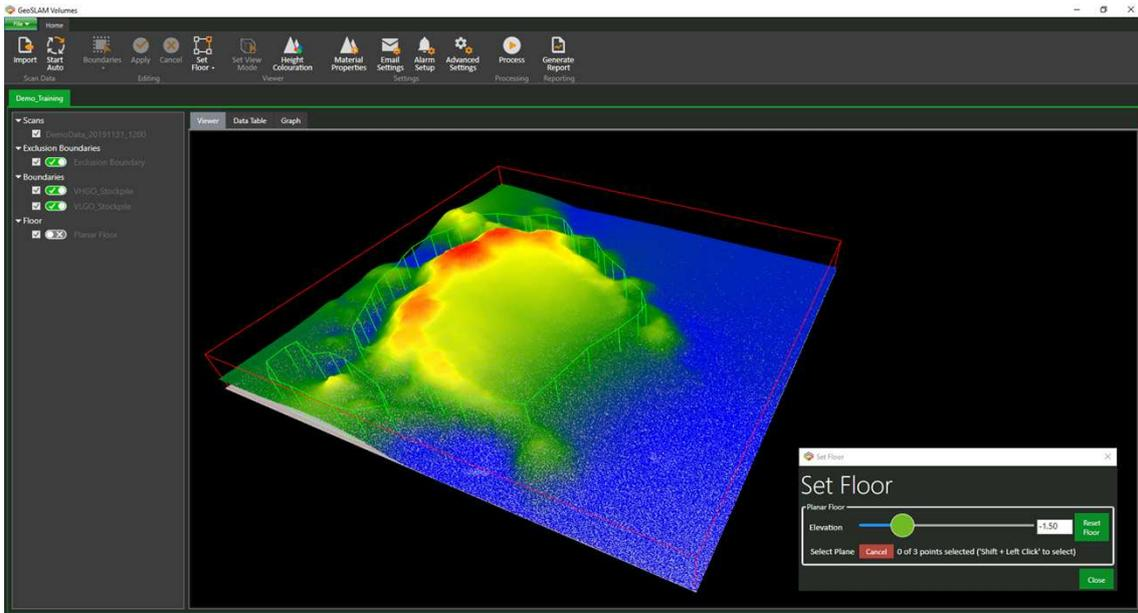

Figure 72. Creating an inclined plane by selecting 3 points from the dataset.
4. **Shift + Click** -> 3 points in the dataset (Figure 72).